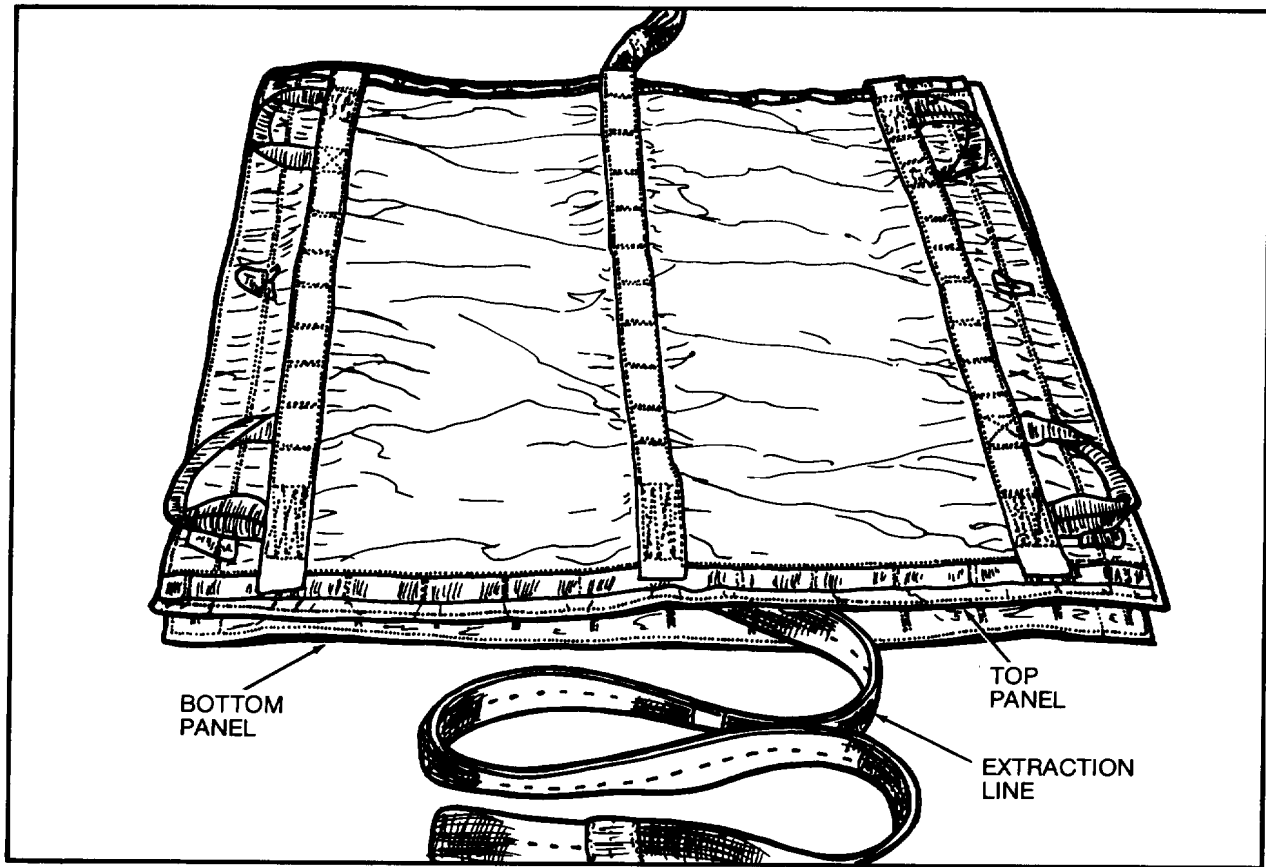

Figure 6. Top Panel in Place for Closing Extraction Line Bag
- a. Place second Extraction Line Panel on stowed extraction line with closing loops facing up and align with bottom panel (figure 6).